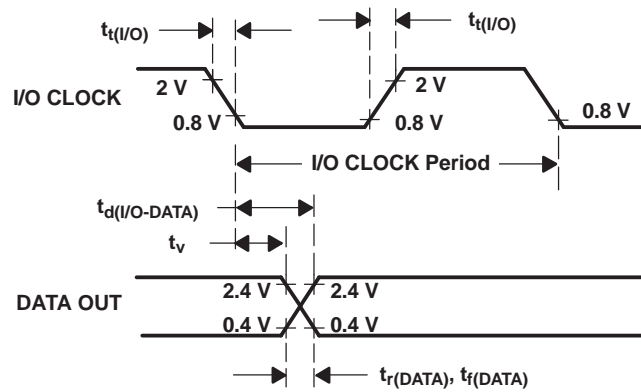

Figure 6. I/O CLOCK and DATA OUT Voltage Waveforms
- (3) Zero-scale error is the difference between 000000000 and the converted output for zero input voltage; full-scale error is the difference between 111111111 and the converted output for full-scale input voltage.
- (4) Analog input voltages greater than that applied to REF+ convert as all ones (111111111), while input voltages less than that applied to REF- convert as all zeros (000000000). The device is functional with reference voltages down to 1 V ($V_{ref+} - V_{ref-}$); however, the electrical specifications are no longer applicable.
- (5) Total unadjusted error comprises linearity, zero-scale, and full-scale errors.
- (6) Both the input address and the output codes are expressed in positive logic.
- (7) I/O CLOCK period = 1/(I/O CLOCK frequency) (see Figure 6)
- (8) Any transitions of \overline{CS} are recognized as valid only if the level is maintained for a setup time plus two falling edges of the internal clock (1.425 μs) after the transition.